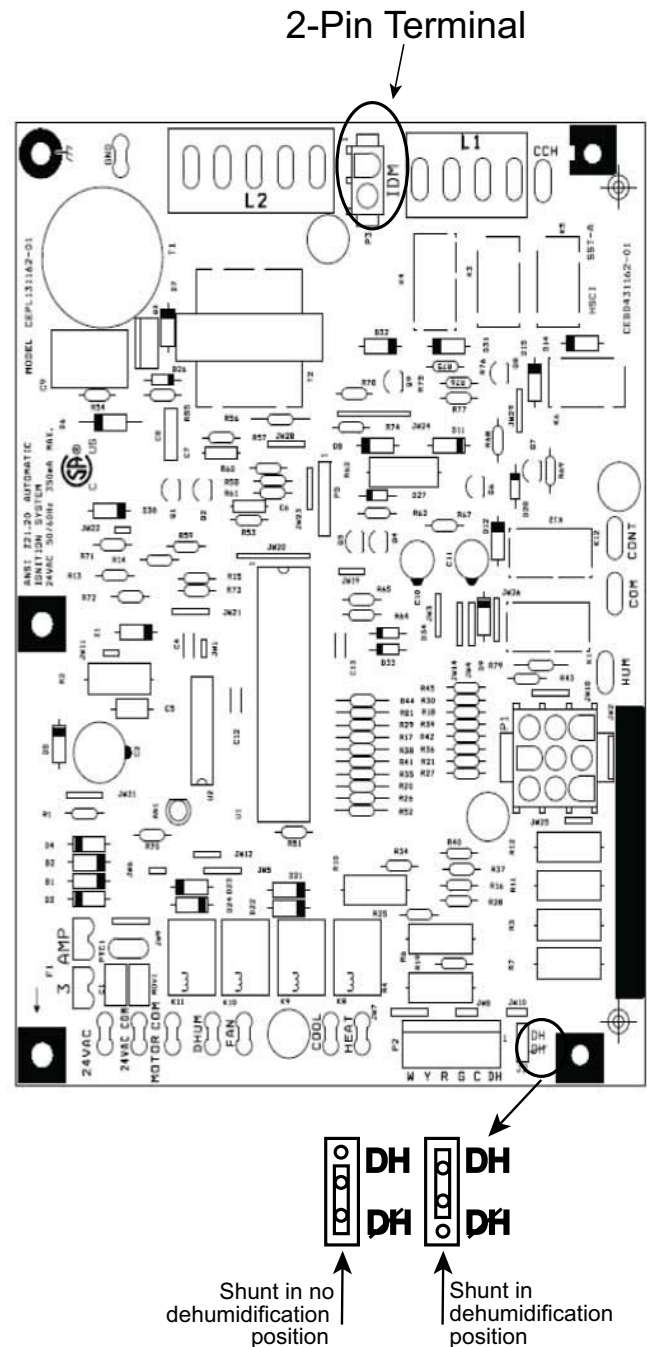

Fig. 22 – Ultra Low NOx IGC Board
This unit is factory-set for use with a single cooling fan speed. For single phase models, the cooling speed is marked "COOL" on the IGC (See Fig. 22). The factory-shipped settings are noted in Table 10. There are up to 3 additional speed tap wires available for use in either gas heating mode, cooling mode, or continuous fan mode (For color coding on the indoor fan motor leads, see Table 8). For single phase models, one of the additional speed tap wires is connected to the continuous fan, with the other 2 wires shipped loose in the control box near the IGC. For three phase models, the additional 3 speed tap wires are shipped loose with vinyl caps and are located in the control box near the interface fan board (IFB) (See Fig. 22).
1. Move shunt jumper on IGC board to “DH” (See Fig. 22).
Continuous Fan Speed must meet or exceed the Required Minimum Dissipation Airflow (Table 1), Continuous fan speed selected must be connected to "FAN" terminal on IGC Board (Fig. 22).